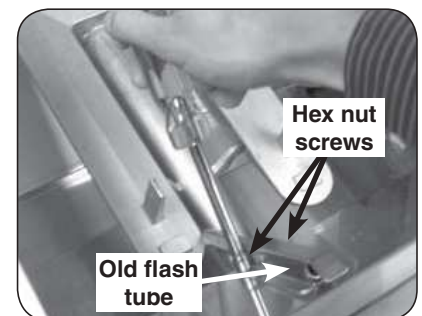

Fig. 1-2 Remove the flash tube
4. Remove the flash tube by removing the two hex nut screws using the 1/4 inch hex nut driver; pulling it directly away from the grill fire wall and off the mounting pin and the ignitor electrode (see Fig. 1-2). Retain screws for installation.